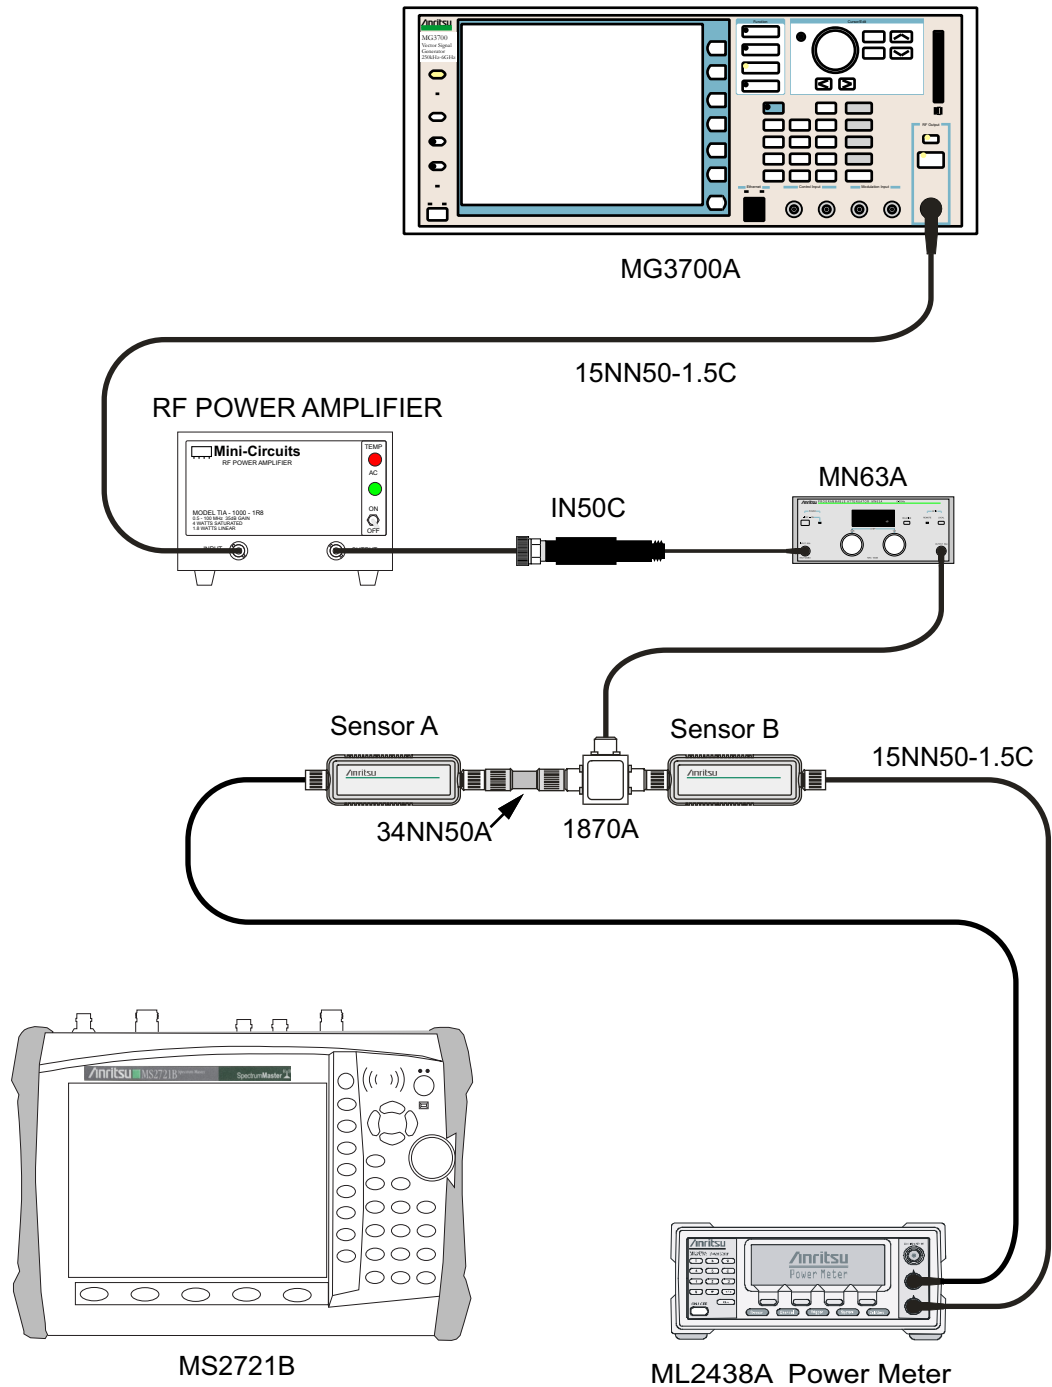

Figure 3-4. Level Accuracy and 1 dB Compression Level Pretest Setup – Two Sensors
2. Connect the MG3700A Signal Generator, Power Amplifier with N(f)-BNC(m) adapters, RF Limiter, MN63A Programmable Attenuator, Power Divider, Power Meter, and Power Sensors as shown in Figure 3-4.
53. Turn off the Power Amplifier, disconnect the Power Splitter from the MS2721B, re-connect Sensor A to the power splitter as shown in Figure 3-4, “Level Accuracy and 1 dB Compression Level Pretest Setup – Two Sensors” on page 3-11.